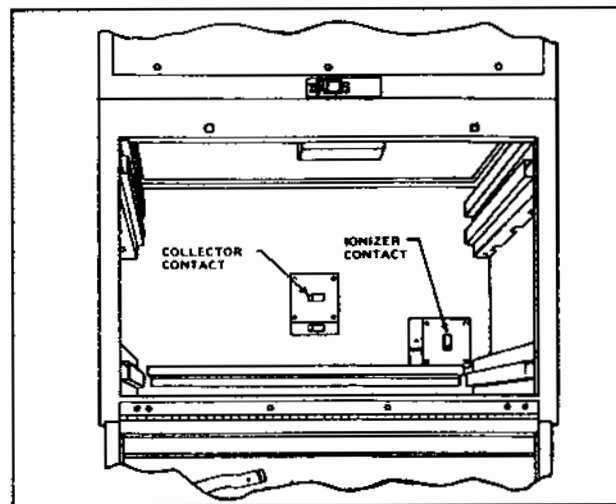

FIGURE 10 - MEASURING POINTS FOR INPUT VOLTAGES
c. Using a voltmeter, measure the voltage from the collector contact to ground. See Figure 10.